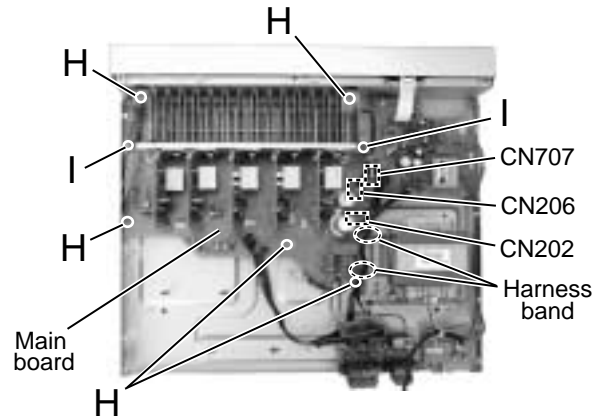

Fig.9
■ Removing the main board (See Fig.9)